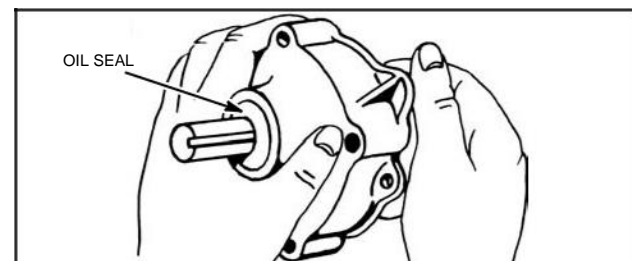

Fig. 120
3. Put drive gear shaft through bearing in gear case as shown in Fig. 120. Be careful not to damage oil seal.